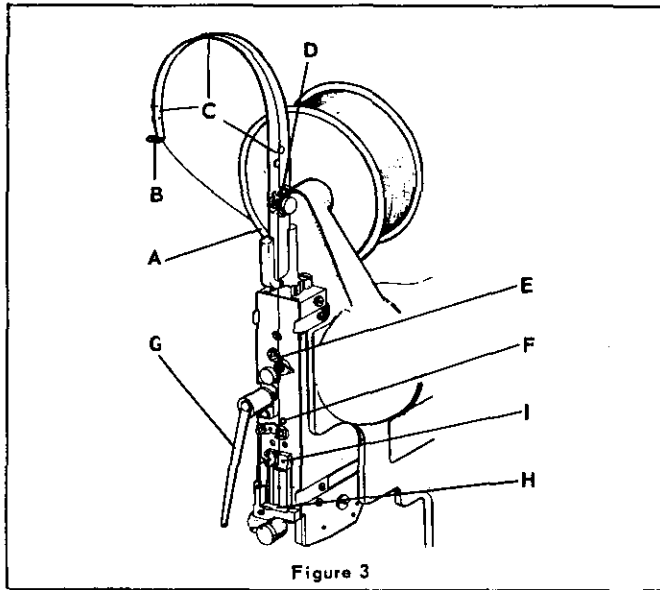
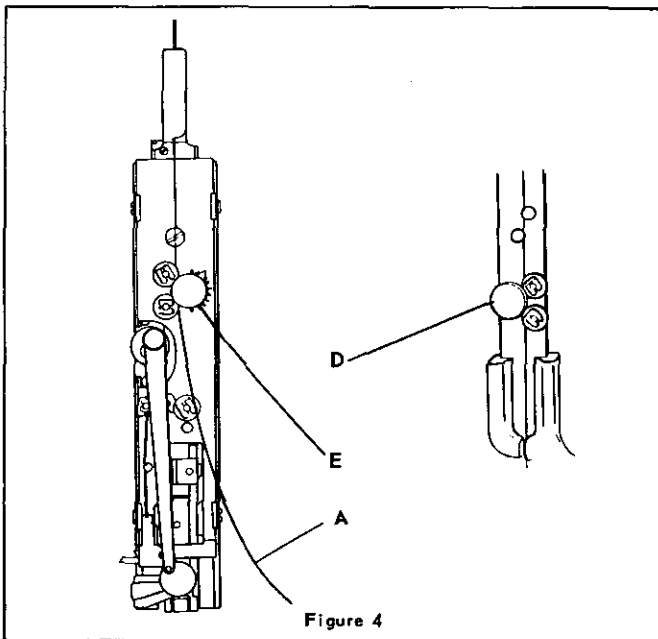

Figure 3
Figure 4
**Threading the Wire: (Figure 3)**
3. Adjust the upper wire straightener (Index D, Figures 3 & 4) so that the wire is parallel to the face plate. Adjust the lower wire straightener (Index E, Figures 3 & 4) so that the wire feeds to the right of the face plate (Index A, Figure 4).
4. To check adjustment, pull wire through the wire straighteners with pliers and release. The wire should curve to the right of (and parallel to) the face plate, as shown in Figure 4. Cut the wire below the tension pawl.
**Adjust Wire Straighteners: (Figures 3 and 4)**
Adjust nut of the upper wire straightener (Index D, Figures 3 & 4) so that wire hangs parallel to the face plate. Adjust nut of lower wire straightener (Index E, Figures 3 & 4) so wire curves to right as shown.